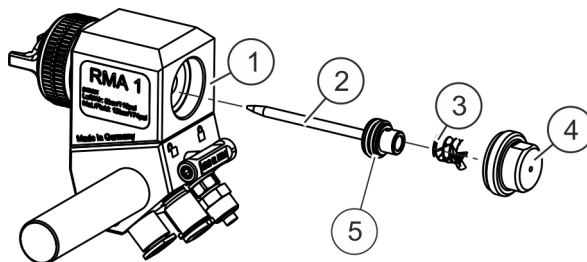

Fig. 12: Removing the material needle
2. ➤ Unscrew the cover (Fig. 12/4).
3. ➤ Remove the pressure spring (Fig. 12/3).
4. ➤ Pull out the control piston (Fig. 12/5) from the main element (Fig. 12/1) together with the material needle (Fig. 12/2).
Remove the material needle (Fig. 12/2) from the control piston (Fig. 12/5).
Insert the new material needle into the control piston (Fig. 12/5).
Push the control piston and the mounted material needle into the main element (Fig. 12/1).
Press in the pressure spring (Fig. 12/3) and the cover (Fig. 12/4).
Screw on the cover (Fig. 12/4).